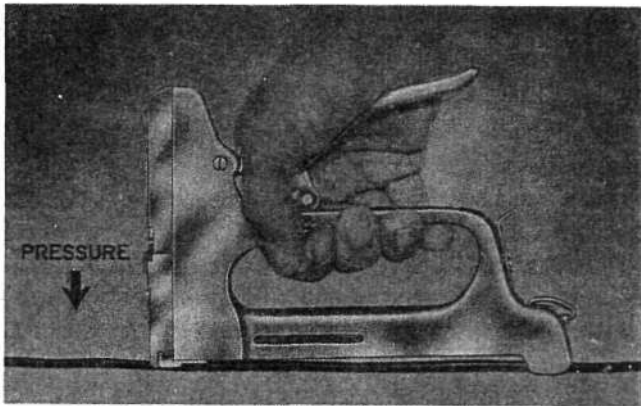

Fig. 2—Holding Position For Model TMN Stapler
**2.02** The TMN stapler (Fig. 2) contains a spring-driven hammer which is actuated by depressing the operating handle. After each operation a staple is automatically fed into driving position by the pusher assembly.
the hammer end of the stapler during the driving operation. This minimizes any tendency of the tool to recoil or bounce (Fig. 2).